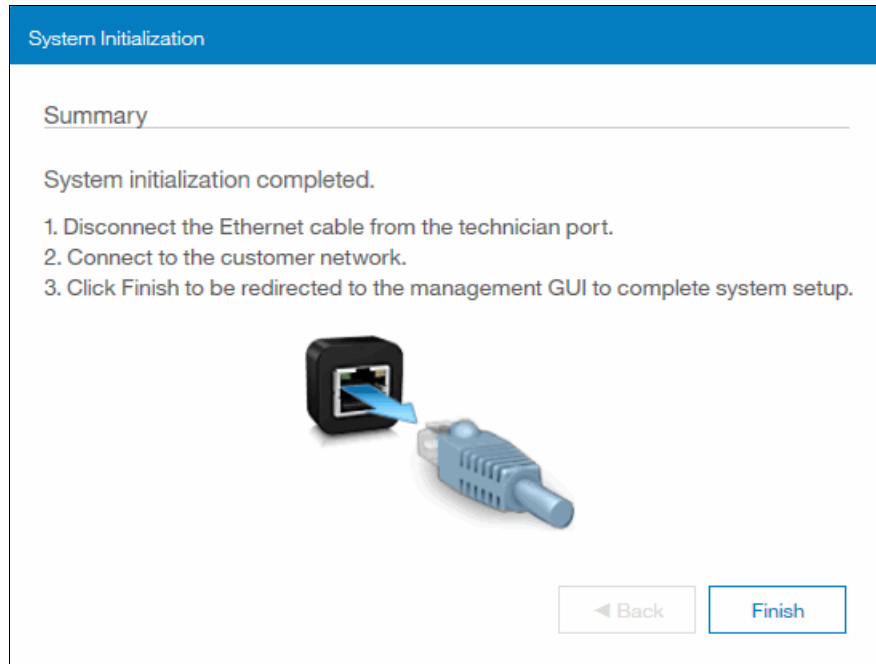

Figure 6-54 System initialization summary screen
16. The System Initialization Summary pane is displayed (Figure 6-54 on page 207).